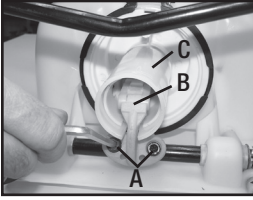
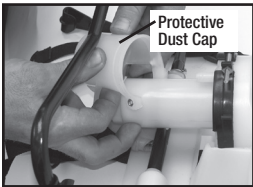

Figure 1
Figure 9
1) Remove the cotter pin and pump handle. With the pump facing towards you lay the unit on its back (Figure 1). Loosen the hose clamp and remove the sprayer hose. Caution: There could be residual liquid in the hose and pressure cylinder. Remove the nut and bolt from the protective cap and remove the cap (ref: figure 9). Rotate the pump shaft in order to reach two lever bolts(A). Using an allen wrench, remove the lever bolts. Pull the piston assembly (B) out of the piston cylinder (C).